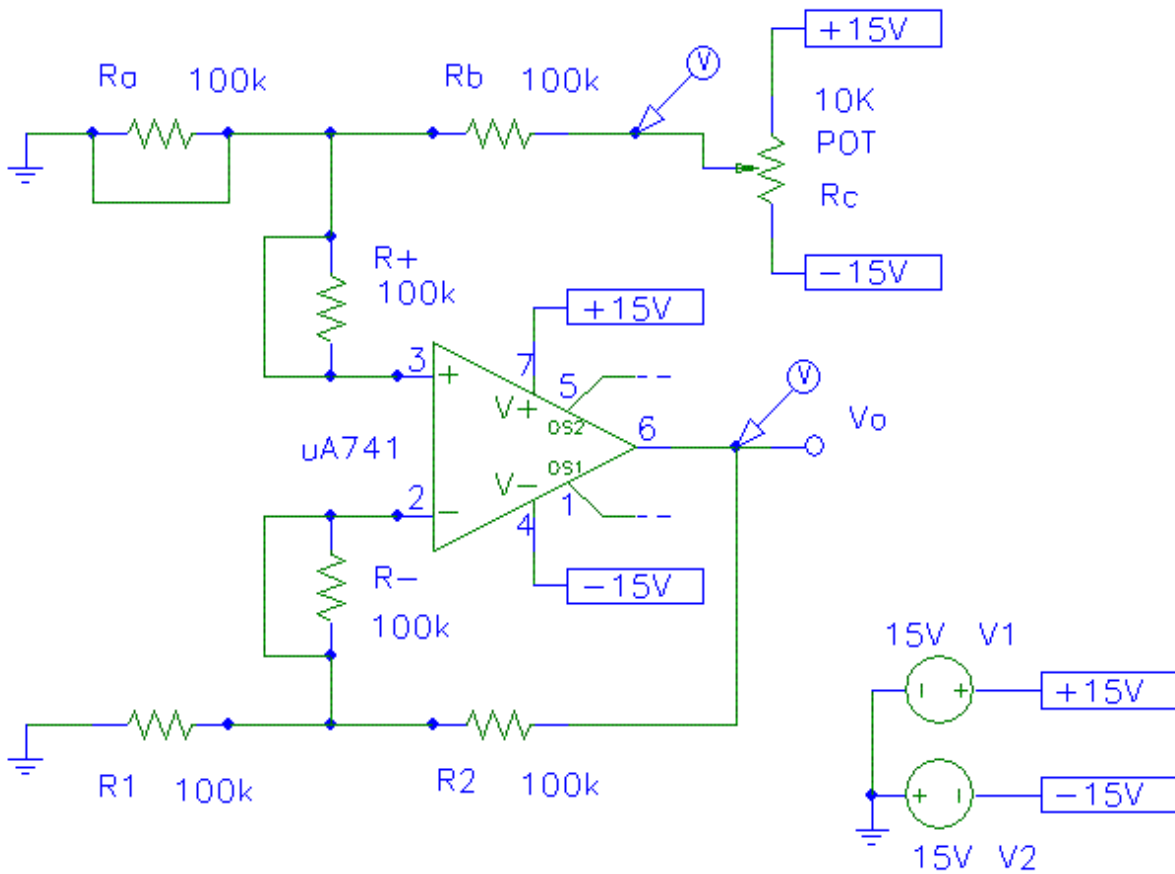

Figure 3.
2. Now assemble the circuit in Fig. 3, carefully record the actual values of the resistances. Short-circuit  $R_-$ ,  $R_+$  and  $R_a$  and check that you have the same output as in step 1.